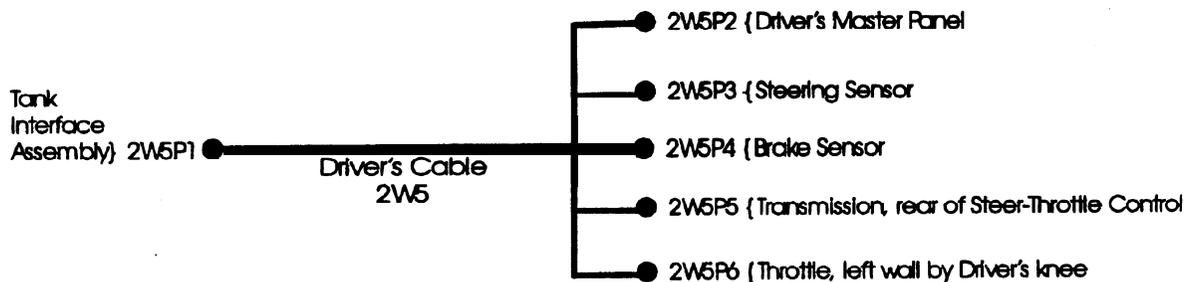

Figure 2-56. Driver's Crew Station Cable 2W5 Wire Diagram
2.4.7.4.4.3 Driver's Crew Station Cable Initial Position. Position Driver's Crew Station cable 2W5 to make the connections shown in Figure 2-56 as follows: